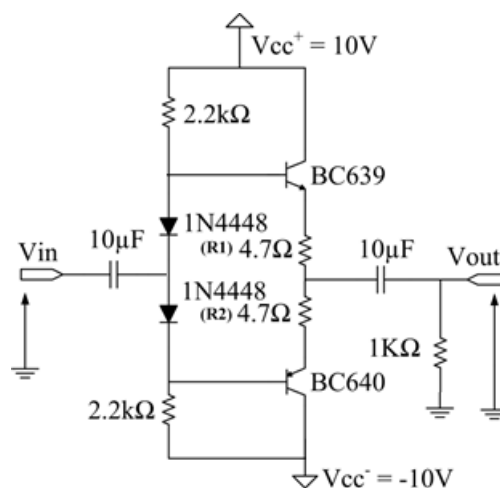

Figure 3
- a) Connect the offset complementary amplifier circuit as shown in figure 3. Paste your circuit diagram.